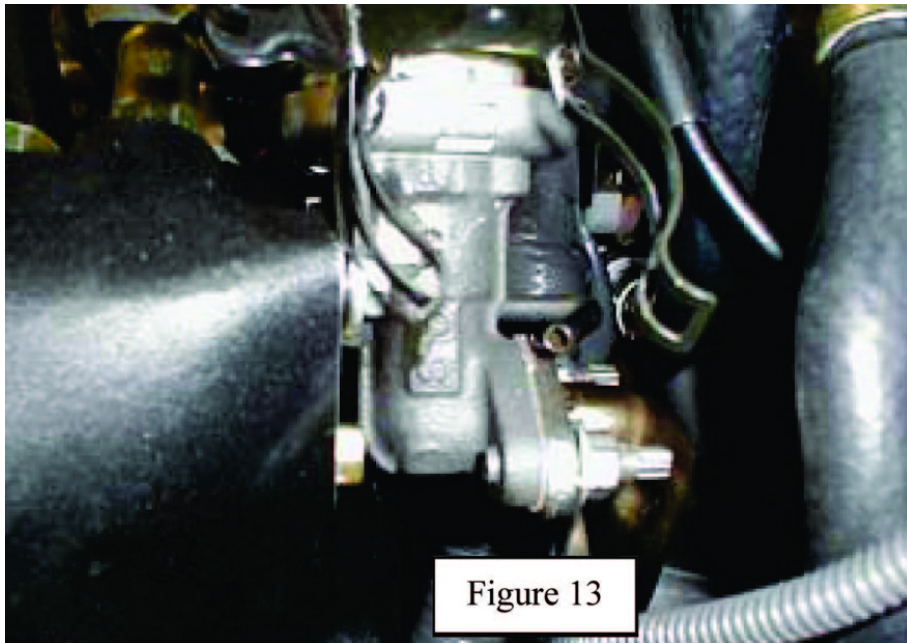

Figure 13
2.) Use one of the supplied EGR gaskets and install the EGR valve to the backside of the intake chamber. (See Figure 13). Use the OE EGR valve nuts.
26.) If the vehicle has no EGR, then use one EGR gasket, block-off plate, and two 8 x 1.25mm flange nuts to seal the EGR passage located on the backside of the intake chamber. (See Figure 13). Torque nuts to 14 ft-lbs